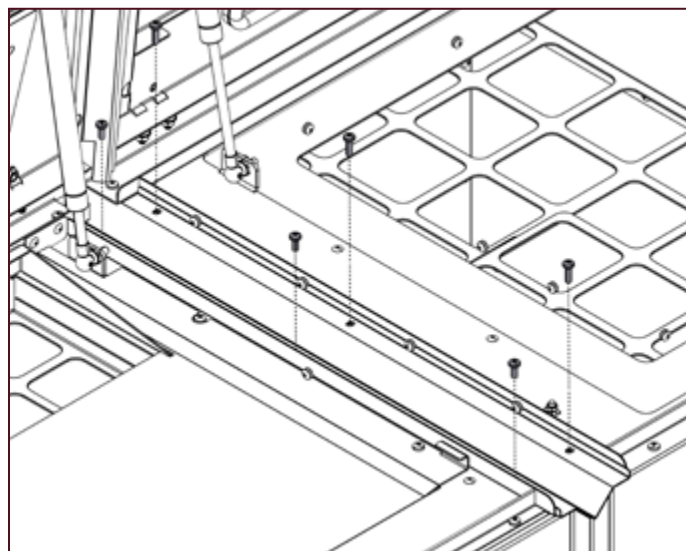

Figure 10-11: Fitting the top joining channel screws
15. Secure the channel in place using the six screws previously removed from the top edges of the side panels. Refer to Figure 10-11.